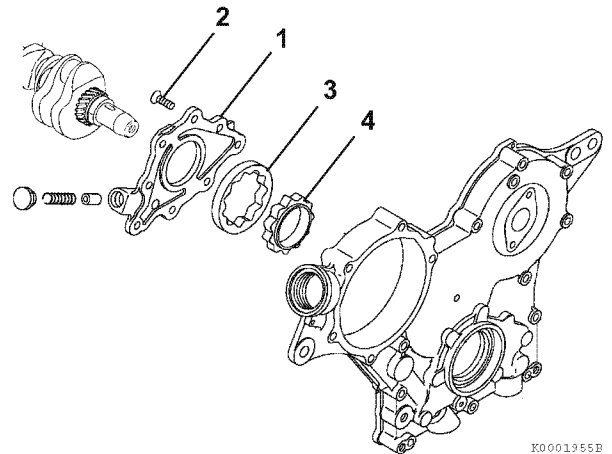

Figure 9-5
3. Remove the seven oil pump cover screws (**Figure 9-5, (2)**).
4. Remove the oil pump cover (**Figure 9-5, (1)**) from the gear case.
5. Remove the outer rotor (**Figure 9-5, (3)**) and inner rotor (**Figure 9-5, (4)**) from the gear case cover.